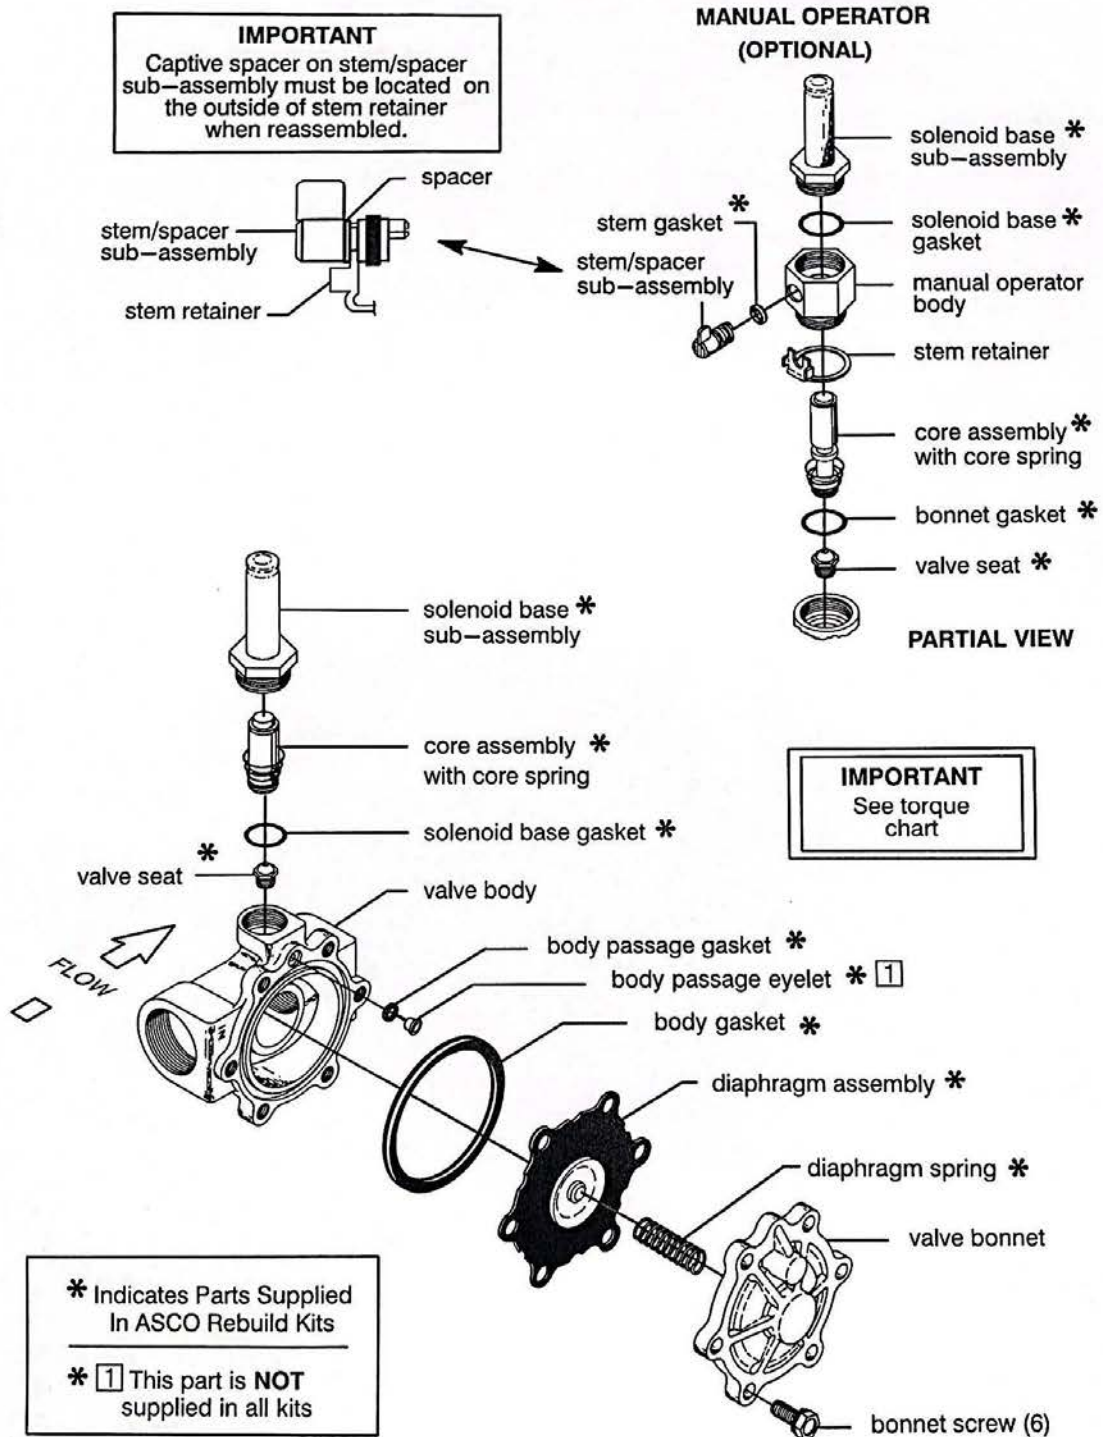

Figure 2. Series 8210 valve without solenoid, DC construction with 1 1/2" NPT valve body shown.
1. Disassemble valve in an orderly fashion using exploded views for identification and placement of parts. Refer to Figure 1 for AC construction; Figure 2 for DC construction. For 1" or 1 1/4" NPT valve construction, see Figure 1; for 1 1/2" NPT valve construction, see Figure 2.
IMPORTANT: The spacer on the stem/spacer sub-assembly must be inside of the stem retainer for AC construction (Figure 1) and outside of the stem retainer for DC construction (Figure 2).